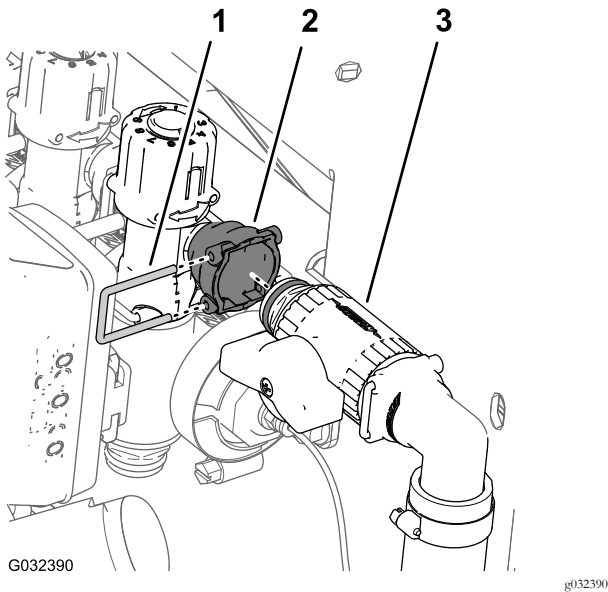

Figure 53
- Remove the retainer that secures the shutoff valve to the coupler fitting at the outboard side of the bypass valve for the right boom-section valve, and separate the valves (Figure 53).